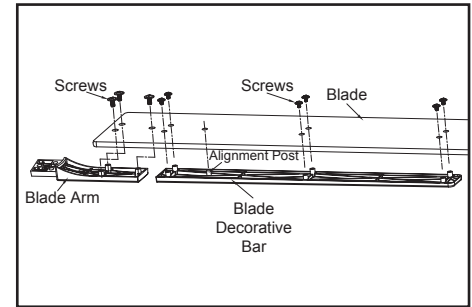

Figure 12
1. Attach a blade arm to a blade by aligning three screw holes in the blade arm with the screw holes in the blade and secure with screws provided; Attach a blade decorative bar to the blade by aligning six screw holes and one alignment post in the blade decorative bar with the holes in the blade and secure with screws provided; Repeat for the remaining blades. (Figure 12)